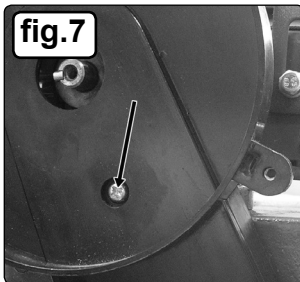
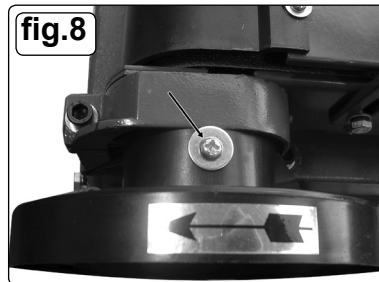

fig.7
fig.8
- 6.7.4. When the disc has been removed, undo the lower cover screw (fig.7) and the upper cover screw (fig.8), remove the disc belt cover.